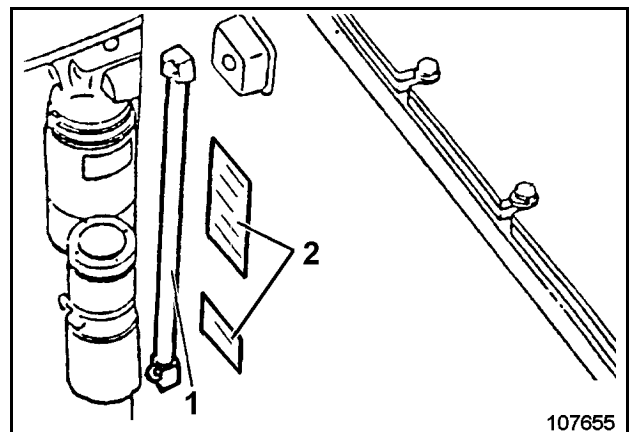

Fig. 3-56:
The oil level must lie between the “min” and “max” marks of sign (2, Fig. 3-56:) near the the inspection glass (1).